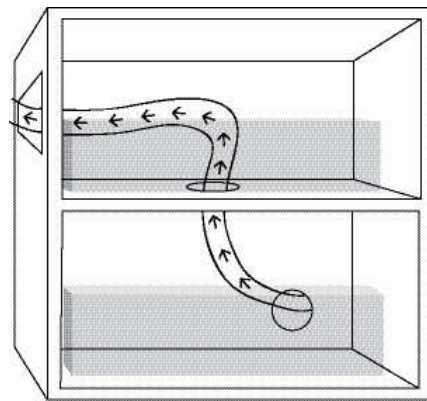

Fig.5
- If not, is mounting the fan panel on the side(s) or top of the enclosure possible? See figures 5, 6 and 7.